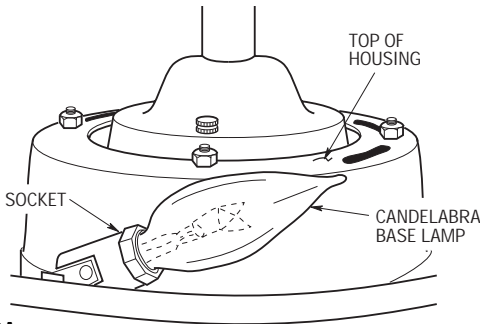

Figure 10A
- 17. Screw in four 60-watt (maximum) candelabra base lamps in the housing sockets (Figure 10A). Grasp the sockets and pivot them until the lamp bulbs are even with the top of the housing as shown. This will provide the optimum lighting effect.